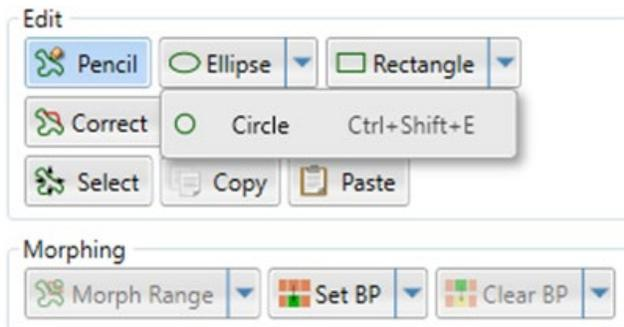

Figure 19: Screenshot of "Edit" & "Morphing" boxes for contour creation and morphing. The "Select" and "Circle" tools are also shown.
2. At the bottom middle of the screen, there exists a lower threshold box, which is located to the right of a slider named “Lower:”. Adjust the lower threshold value in the box as necessary by switching between the mask  (or “F5” key) and the image  (“F6” key) to determine the best value (increasing the lower threshold decreases the mask’s area). Once the mask appears as close to the original bone as possible, record the lower threshold value. Refer to *Figure 19* for help regarding what is considered a “good” lower threshold value, and please seek the Lab Manager if you are experiencing difficulties.